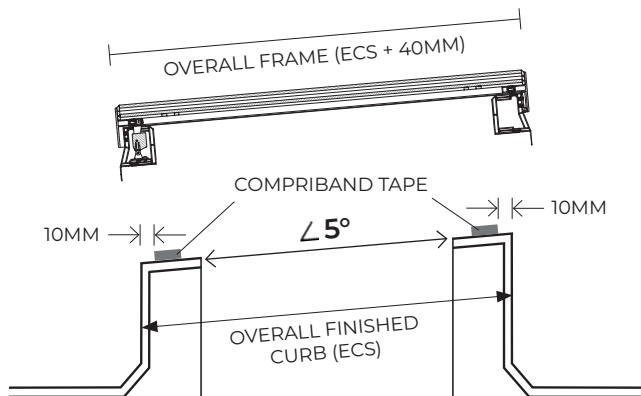

Fig. 6
4. Position and apply compriband tape to the top of the em.curb, so that it provides continuous seal with tight butt joints wherever tape meets or joins. See Fig. 6.